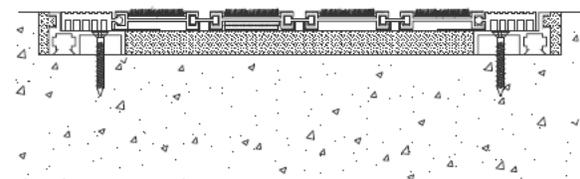

Figure 13
STEP 22. Restore the mat to its proper installed position in the frame. Compress the lockdown area of the mat to engage the lockdown strips with one another (see Figure 13).